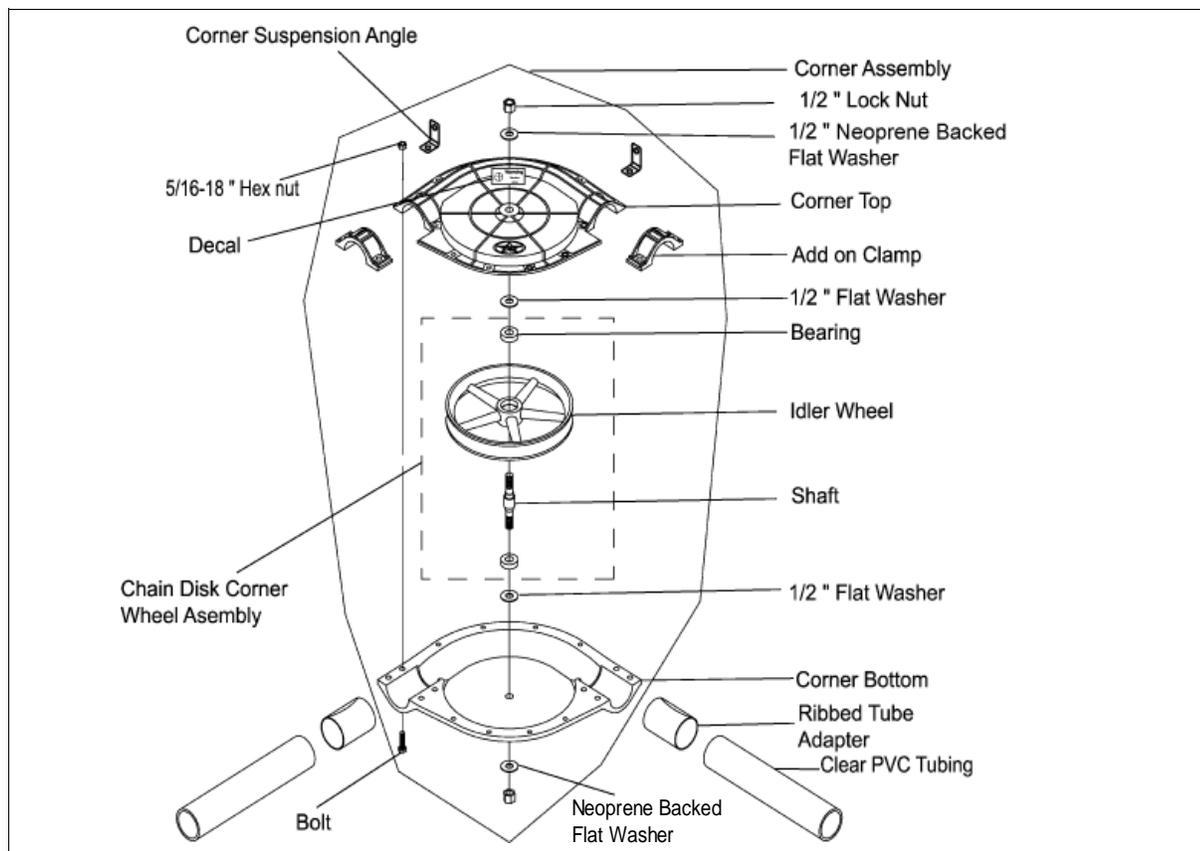

Figure 8A Corner Installation
1. Remove the top from the corner and hold the rest of it in place to mark the tubes for cutting (See Figure 8A).
3. Replace the 1/2" Neoprene backed flat washer and 1/2" locknut on the pivot shaft to retain the idler wheel from being pulled off during chain and disk installation. The top of the corner can remain off until after the chain and disks are installed. Corner must be suspended using the two angles provided to avoid tubing wear. Use one angle on each side of the corner (See Figure 8A). Place angles over the add on clamps so that corners will be supported before tops are installed.